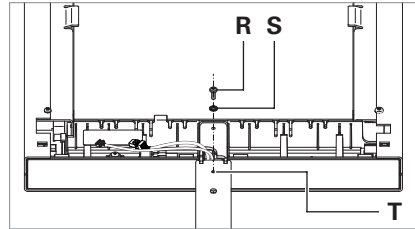

Fig. 9: Securing the luminaire head.
- ▶ Screw the screw **R** along with the toothed washer **S** into the bore **T** on the support tube and tighten the screw, see Fig. 9.